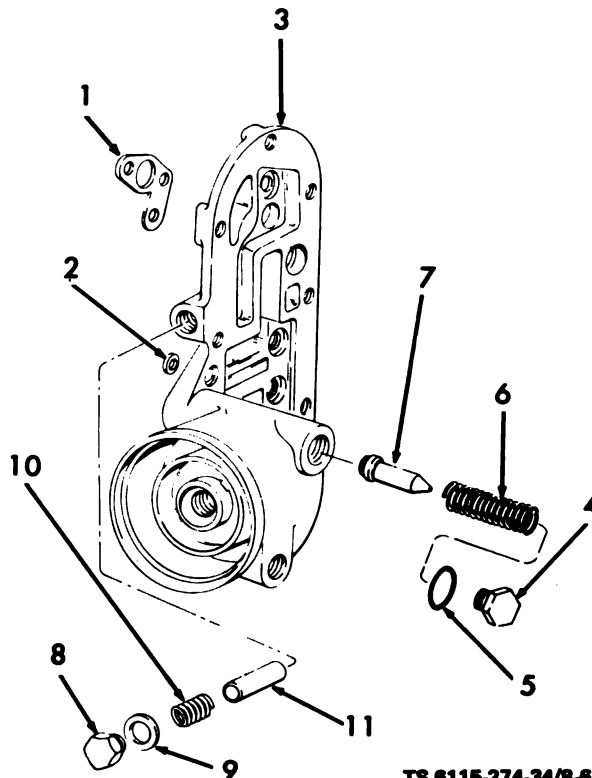

Figure 8-6. Oil Cooler and Filter Adapter, Disassembly and Reassembly
(1) Remove gaskets (1 and 2, fig. 8-6) from oil cooler and filter adapter (3).
(2) Remove pressure regulator plug (4), gasket (5), spring (6), and valve (7).
(3) Remove pressure control plug (8), copper gasket (9), spring (10) and valve (11).
(1) Install the valve (11, fig. 8-6), spring (10), copper gasket (9) and pressure control plug (8).
(2) Install the valve (7), spring (6), gasket (5) and pressure regulator plug (4).
(3) Install gaskets (1 and 2) onto oil cooler and filter adapter (3).